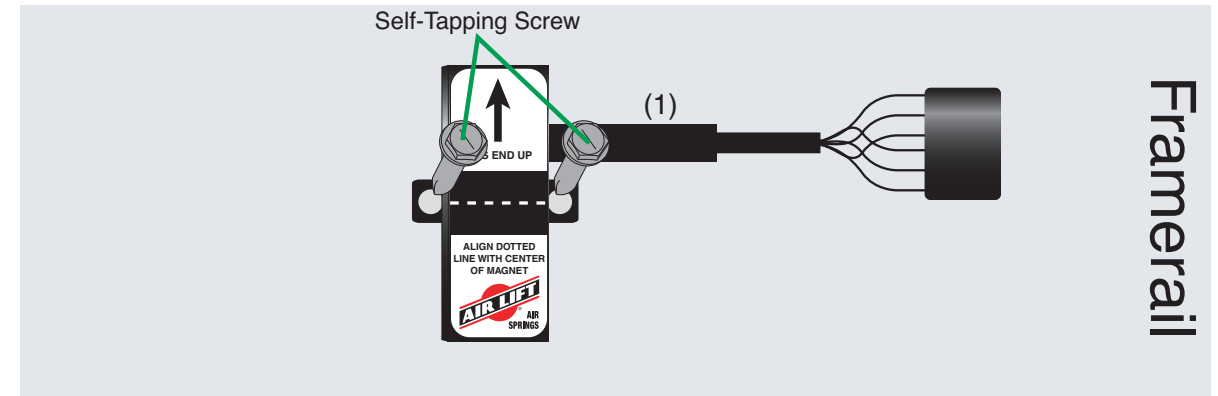

Figure 2
2. Attach the height sensor to the framerail using the provided flat-head screws and nyloc nuts. Tighten securely (Figure 2).
3. Using the two provided self-tapping screws, attach the height sensor bracket to the chosen frame-mounting location (Figure 2).